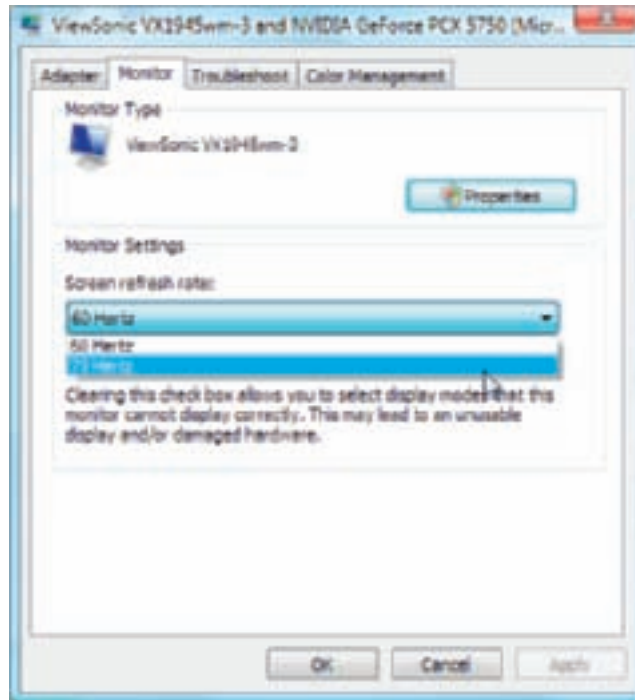

Figure 9-23 Change the refresh rate to the highest setting
3. To change the refresh rate, click **Advanced Settings**. The monitor property box opens. Click the **Monitor** tab. Select the largest refresh rate (see Figure 9-23) and click **Apply**. Respond **Yes** to the message, “Do you want to keep these display settings?” Click **OK** to close the properties box.